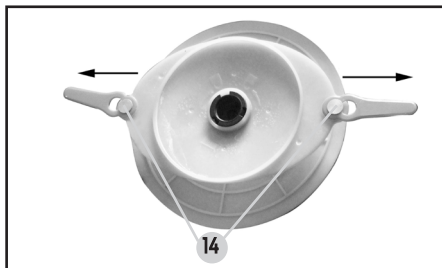

Fig. 12
- 2 Fit new plastic blades into the slots (14) on each side of the cutting head and pull into place. (Fig.12)